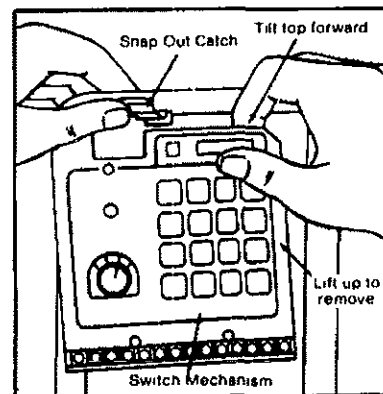

Figure 2
1. Remove the mechanism from the case by depressing the catch at the top of the case and pulling out. (See Fig. 2) **CAUTION: DO NOT TOUCH CIRCUIT BOARD COMPONENTS.**